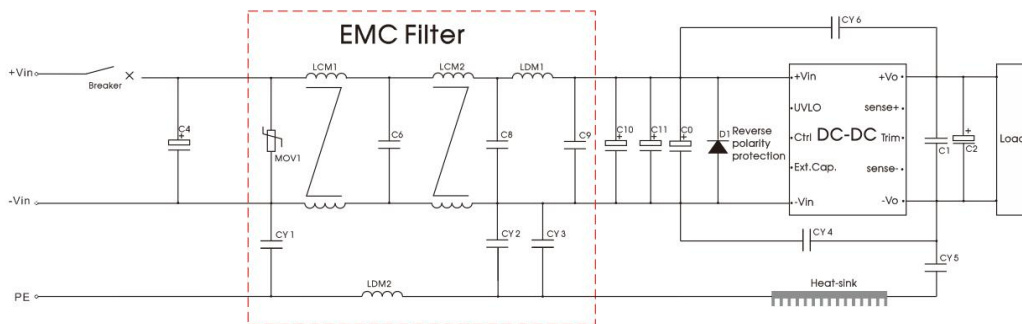

Fig.6
60Hz 300A/m (see Fig. 6 for recommended circuit)
- The EMC filter part is composed of modular circuits. Please refer to Figure 6 for recommended circuits and parameters. Self-built circuits can also be used;